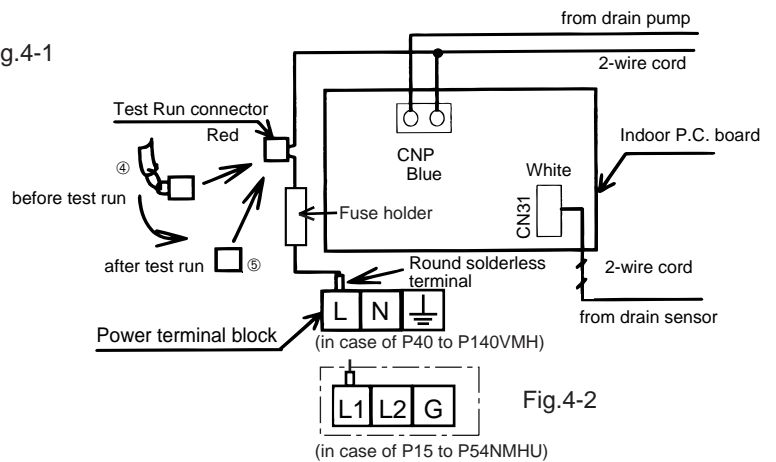

Fig.4-2
2. Connecting the pump wires to the control box of the indoor unit (Fig. 4-2)
- a) Connect the blue connector of the 2-wire cord to CNP on the indoor P.C. board inside the control box, and fix the fuse holder to the specified position (Photo 4-2) inside the control box using the PPT screw ⑩. The round solderless terminal must be connected to [L] of the power terminal block.
- c) When wiring is complete, fasten the remaining cords with the band ⑦.